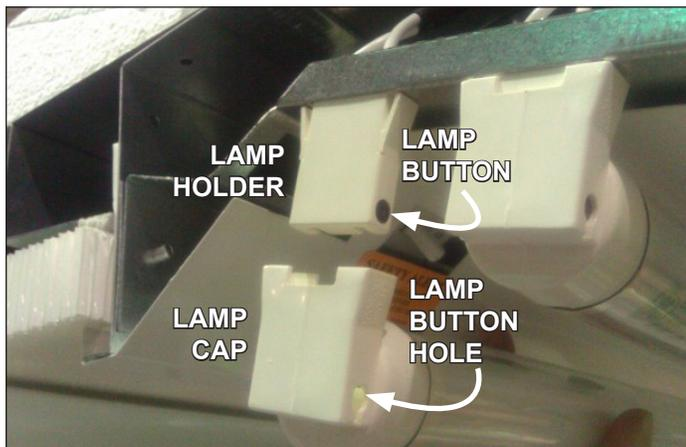

Fig. 17 Remove old T-8
1. Simultaneously pull down at both ends of the old T-8 light to remove from the lamp holder (Fig. 17). Remove the lamp caps and plastic shield from the old light, then discard the light.